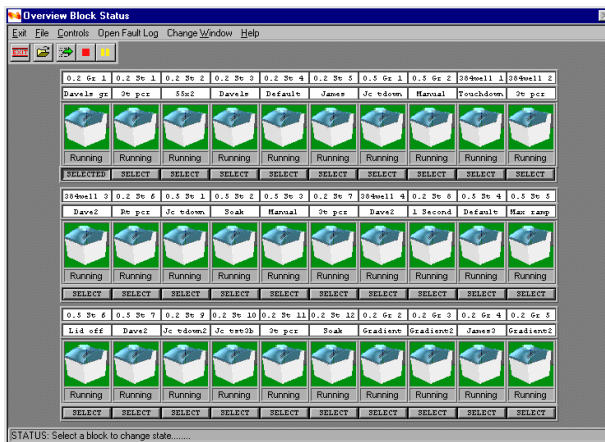

Figure 3.6: Overview Block Status Window
- From the 'Overview Block Status' Window (Figure 3.6), select a block by clicking on the 'Select' button. Choose the 'File' menu followed by 'Download program' or click the 'Open file' button. The downloaded program will be displayed above the block icon. To run the program, choose the 'Control' menu item followed by 'Run' or click on the green arrow button.
Through the use of color coding, the 'Overview Block Status' window (Figure 3.6) shows at a glance the status of each block. All 30 blocks can be displayed at the same time and each block is identifiable with both block ID and program name (if downloaded).